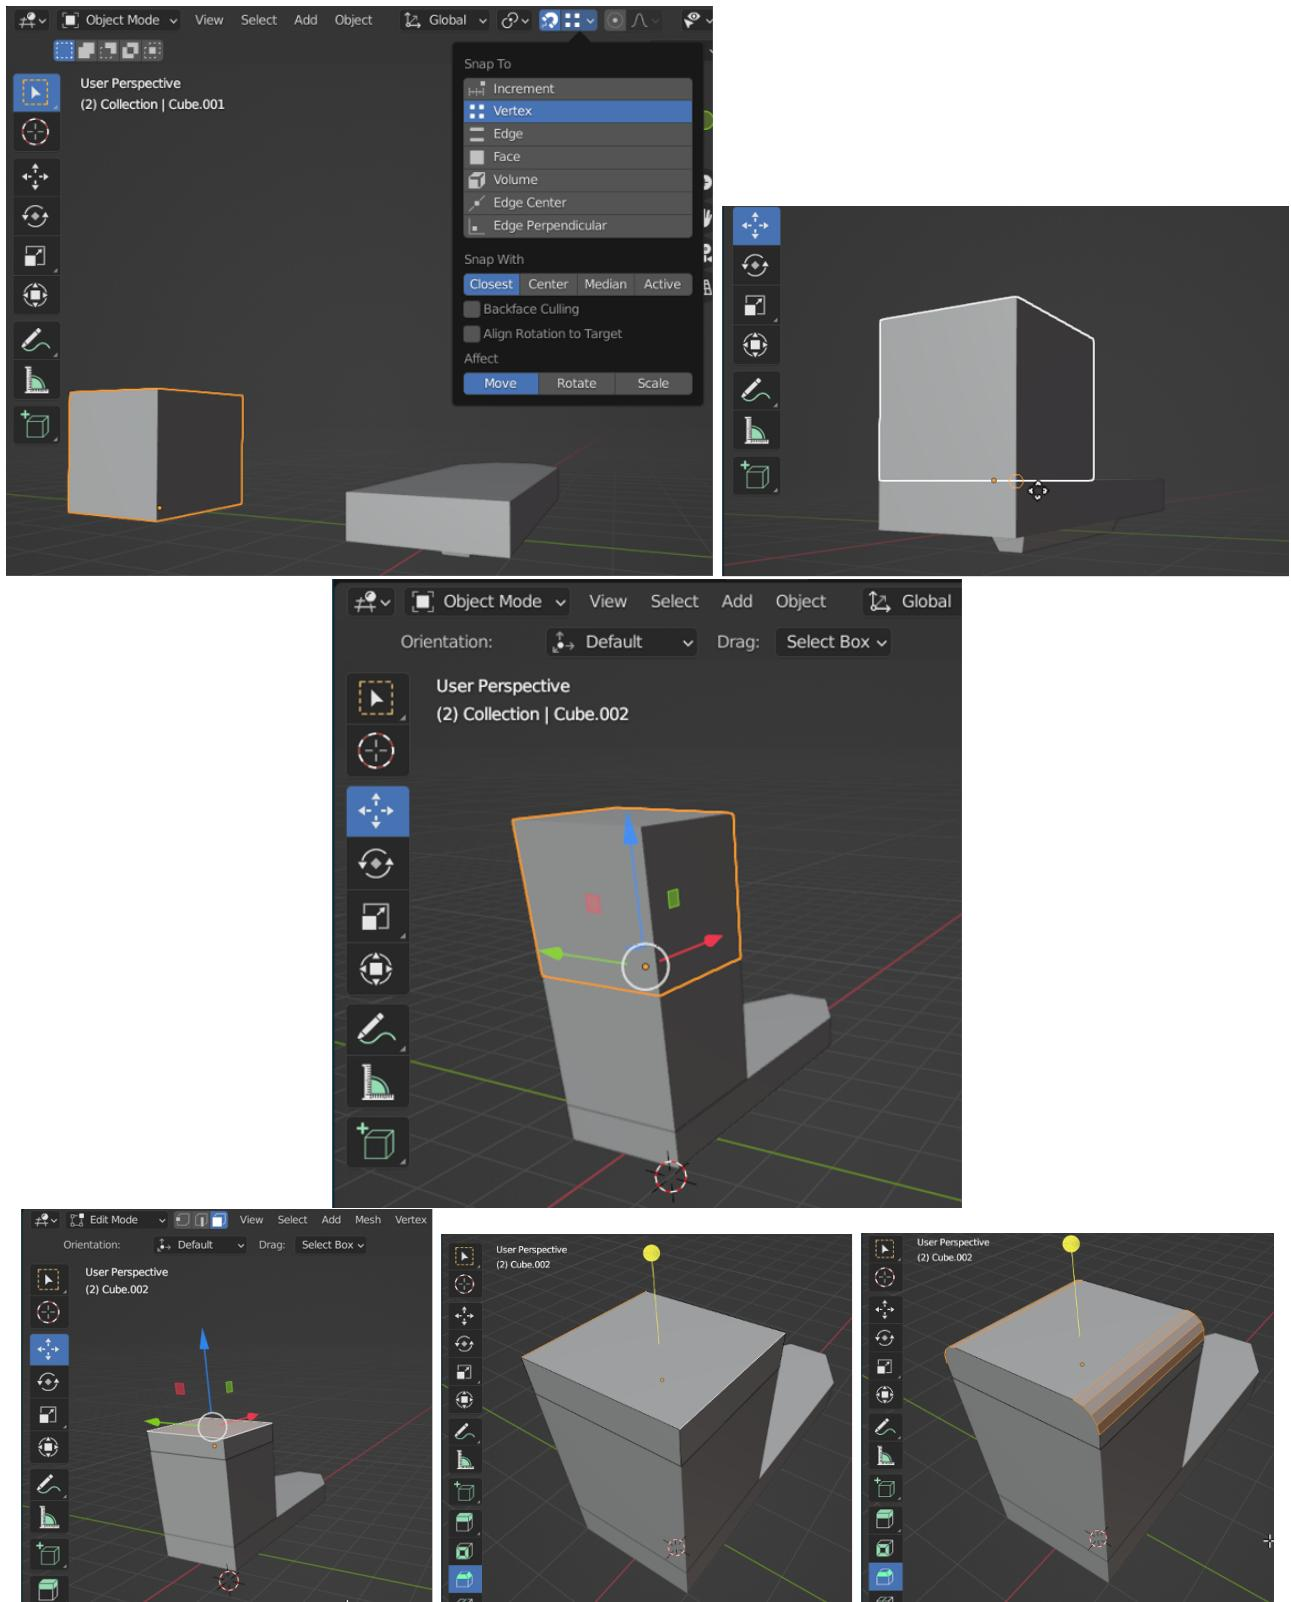

Figure 1.25: Creating loco cabin.
- (b) Use *Snapping* to place the cube on the platform. First, define the snapping type - open the snap menu and set *Snap to/Vertex* and *Snap with/Closest* and *Affect/Move* (see Fig.1.25, top row). Then click on the cube with the left mouse button, hold and move the object looking for a place where the objects will join each other (until an orange circle appears). The platform and cube are the same width, so they are easy to match based on vertex snaps.
- (c) Choose the third cube and place it on the previous one using snapping (see Fig.1.25, center row). If it is hard to arrange objects on top of each other, try to change the view.
- (d) Select the top cube and go to *Edit Mode* to lower its height. Select the top face and move it down along the Z axis (see Fig.1.25, bottom row, left).
- (e) Mark two opposite edges and make a bevel using *Bevel* increasing the number of segments (see Fig.1.25, bottom row, center and right).